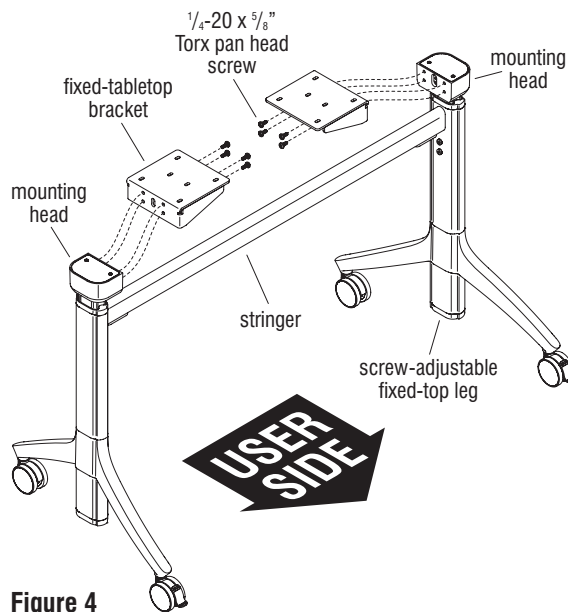

Figure 4
- Lower a fixed-tabletop bracket into position next to a mounting head as illustrated. Align the four mounting holes on the fixed-tabletop bracket with the four side mounting head holes and secure using $1/4-20 \times 5/8$ inch Torx pan head screws. Repeat this step to install the second fixed-tabletop bracket to the opposite mounting head (Figure 4 & Detail E).